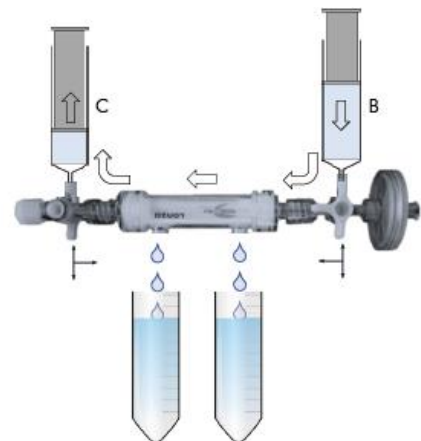

Fig 4
- Rotate the valve 3 to the position indicated in figure 4.
- Insert a new clean syringe (C) in position 5.
- Set 2 permeate collection tubes under the nozzles in position 4, as indicated in figure 4.
- 1- Inject the buffer (buffer 1) containing EVs into the device as indicated in figure 4.